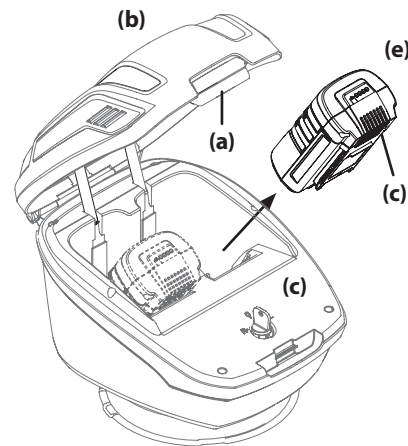

Figure 3-4
3. Locate the battery release button (d) on the underside of the battery (e). See Figure 3-4.